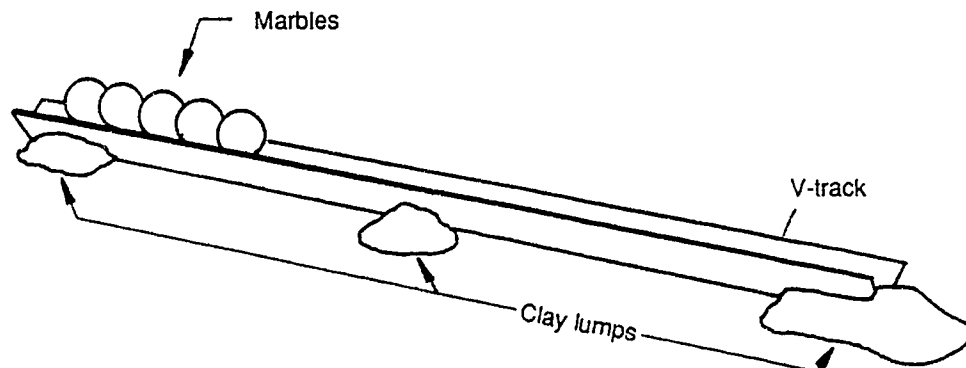

Figure 1. Demo Setup.
Part 1: Set the long (3 to 4 ft) V-track section on the demonstration table. Level it and support it with modeling clay. (See Figure 1.)
1. The V-track should appear as shown in Figure 1. Have the clay block at one end of track as a brake for the marbles. Always have marbles line up, touching one another, as shown.